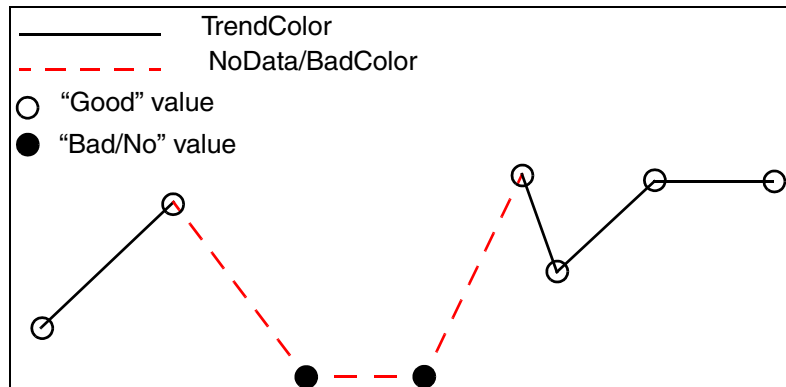
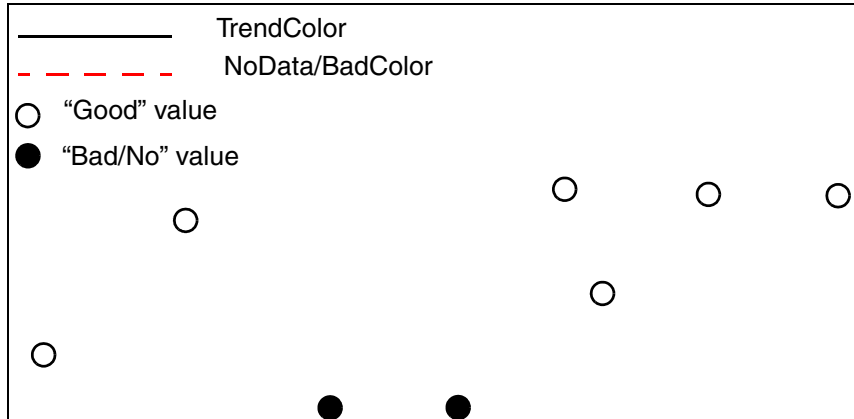

Figure 100. Curve Drawn in Curve_Linear Mode
Figure 103. Curve Drawn in Curve_Point Mode
- *curve_linear* - Values are connected directly from point to point, drawn with the specified line width, Figure 100.
- *curve_point* - Data are drawn as circular points, with the line width property used as the diameter, Figure 103.
When trend curves are drawn, data status is examined and the curve (whole or part) is color coded to reflect the status. The *NoDataColor* and *BadDataColor* properties determine what colors are used to indicate NoData and BadData respectively. Good data are still drawn using the *Tn_Color* property. The properties are common for all curves, and the function is illustrated in Figure 100 through Figure 103.